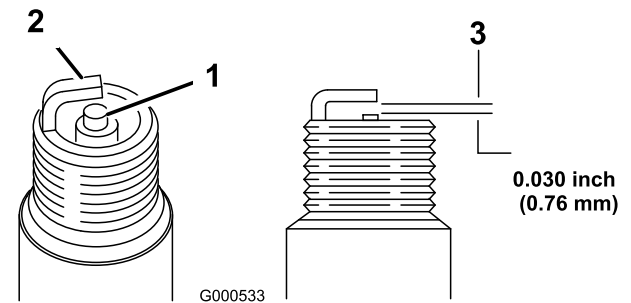

Figure 49
2. Check the gap between the center and side electrodes (Figure 49) and bend the side electrode, if the gap is not correct.
1. Look at the center of the spark plugs (Figure 49).